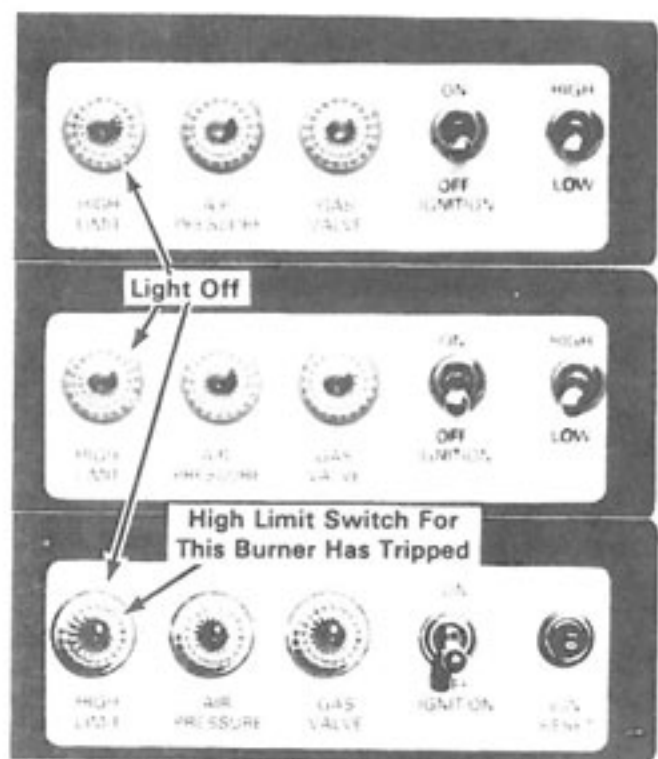

Figure 10 - Base Section Controls (Model 1075)
2. The ignition switches on the Base Section Control Panel must be flipped to the ON position (except Burner #1) and the High-Low Fire Switches must be flipped up to the HIGH position before burners can be started at each module Dryer and Motor Control Cabinet. See Figure 10.
9. If after several attempts for ignition there is still no flame, push the 0.1 (1/10th) amp ignition reset button (circuit breaker) on the control panel, see Figure 10. This circuit breaker protects the ignition board from heat build up due to repeated ignition attempts.
NOTE: When a High Limit Switch trips out, the high limit light for that burner and all of the high limit lights above it will be out, see Figure 10. The High Limit Switch will have to be reset when the plenum chamber temperature falls 20°F below the High Limit Switch setting. All of the high limit lights will come back on when the High Limit is reset.